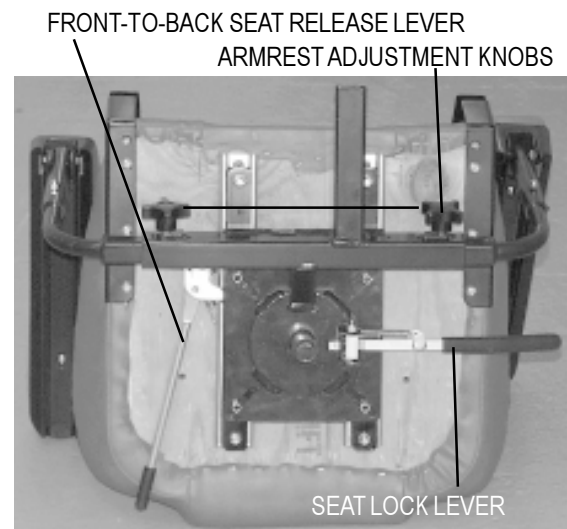

FIGURE 15. SEAT ADJUSTMENTS
1. Pull out the front-to-back seat release lever. See figure 15.
1. Push down on the seat lock lever to unlock the seat. See figure 15.